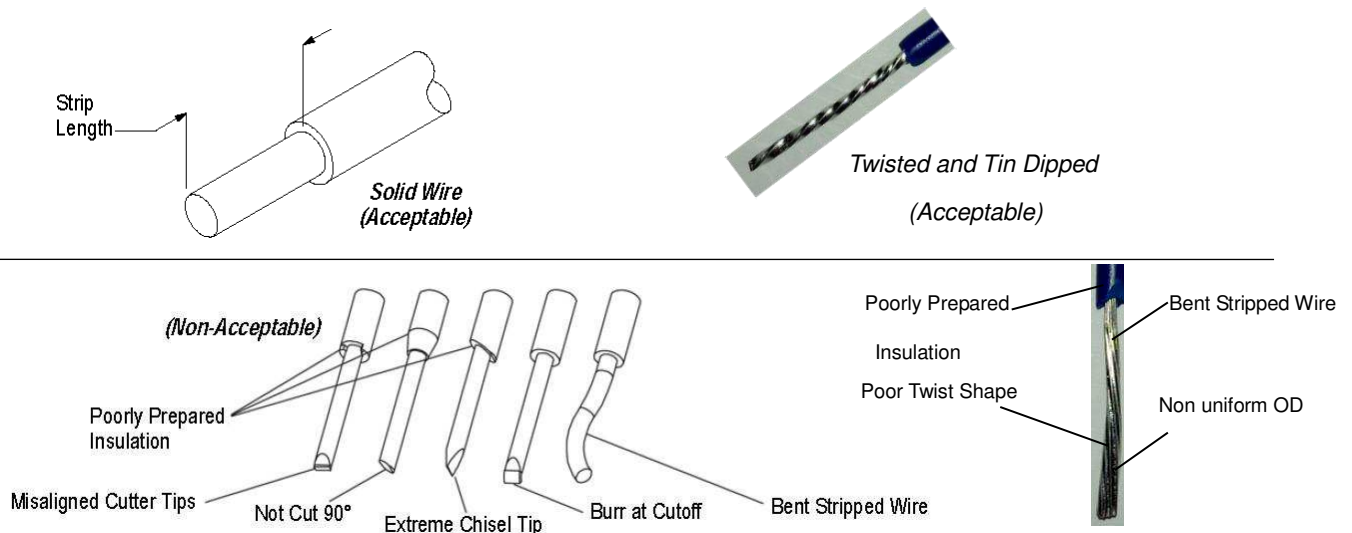

Figure 2
When preparing stranded or Tin-dipped stranded wire, it is recommended to twist strands after stripping the insulation. The strands need to be well organized and in a uniform straight style. The stranded wire need to be coated with Tin. Too much Tin coated is not allowed. Tin dipping depth is same as wire strip length. The wire strip length is 11.00mm and the typical unacceptable wire preparation example is shown on Figure 2.
2. If using customer-assembled connectors, strip wires with applicable copper conductors provided in Figure 2. For field wiring, wires shall be inserted into connector horizontally.